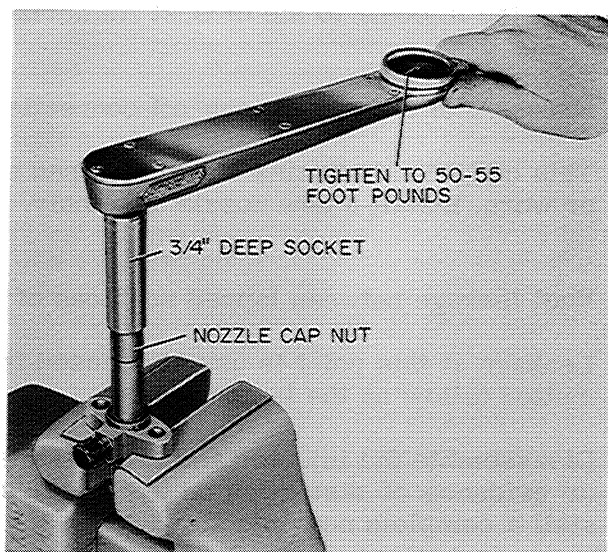

Figure I-41. Tightening Nozzle Clamp Nut with a Torque Wrench
- c. Using a torque wrench and a 3/4 inch deep socket, carefully tighten the cap nut to 50 to 55 pounds, Figure I-41. Keep the sleeve free while tightening the nut.